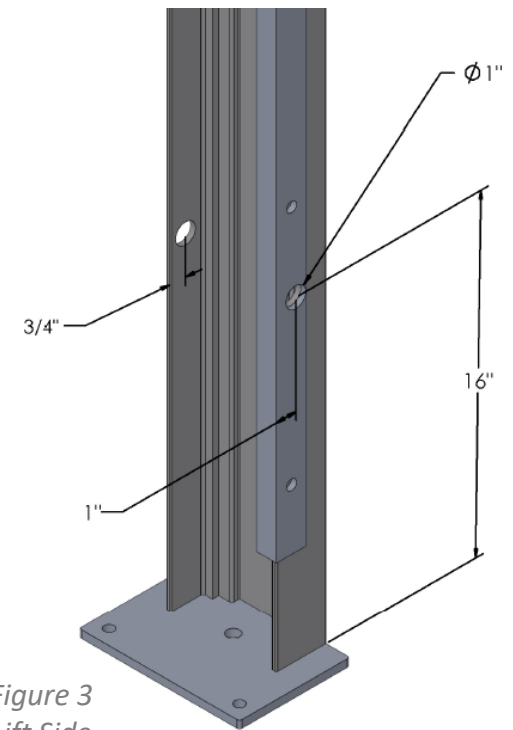

Figure 3
3. Drill a 1" hole to create an access holes through the front lift side post channel and angle & the rear lift side post channel and angle approximately 16" from the floor and 1" from the front face of the angle as shown in *Figure 3*.
4. Repeat step 3 on the backside of the front lift side post channel & rear lift side post channel side without the angle. The hole should 3/4" from the front face of the channel as shown in *Figure 3*.